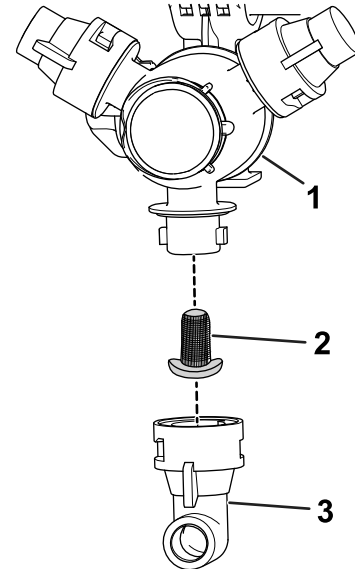

Figure 31
2. Remove the nozzle from the spray turret (Figure 31).
3. Remove the nozzle filter (Figure 31).
5. Install the nozzle filter (Figure 31).
6. Install the nozzle onto the spray turret (Figure 31).